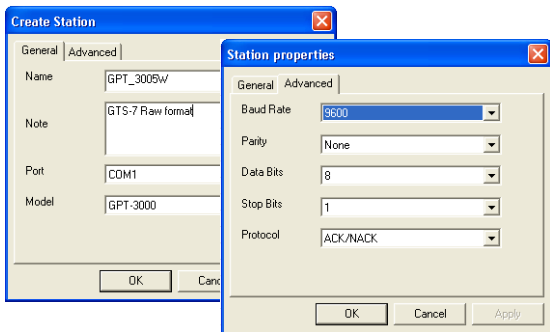

Figure 2-11. Total Station Properties
4. On *General* tab of the *Create Station* dialog box, enter *Name*, *Notes*, the *Port* the device connects to, and the *Model*. Click **OK** (Figure 2-11 on page 16).
5. On the **Station properties** dialog box (*Advanced* tab), enter the *Baud Rate*, *Parity*, *Data Bits*, *Stop Bits*, and/or *Protocol* used for communication (Figure 2-11). Click **OK**.